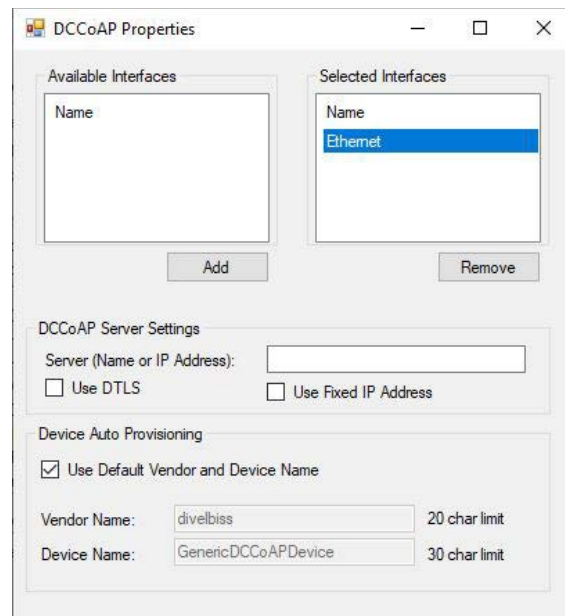

Figure 30-4
6. Select (highlight) the communications method in the Available Interfaces pane and click the **ADD** button. The selected method will now be moved from the **Available Interfaces** pane to the **Selected Interfaces** pane. Refer to Figure 30-4.